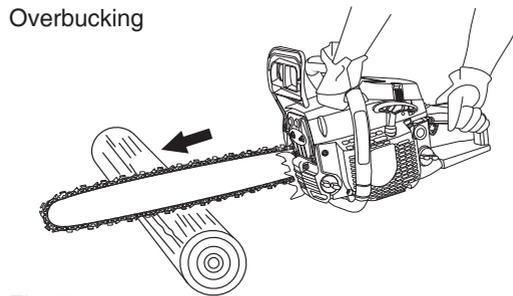

Fig.23
- Hold the saw firmly to maintain control. (Fig. 23)